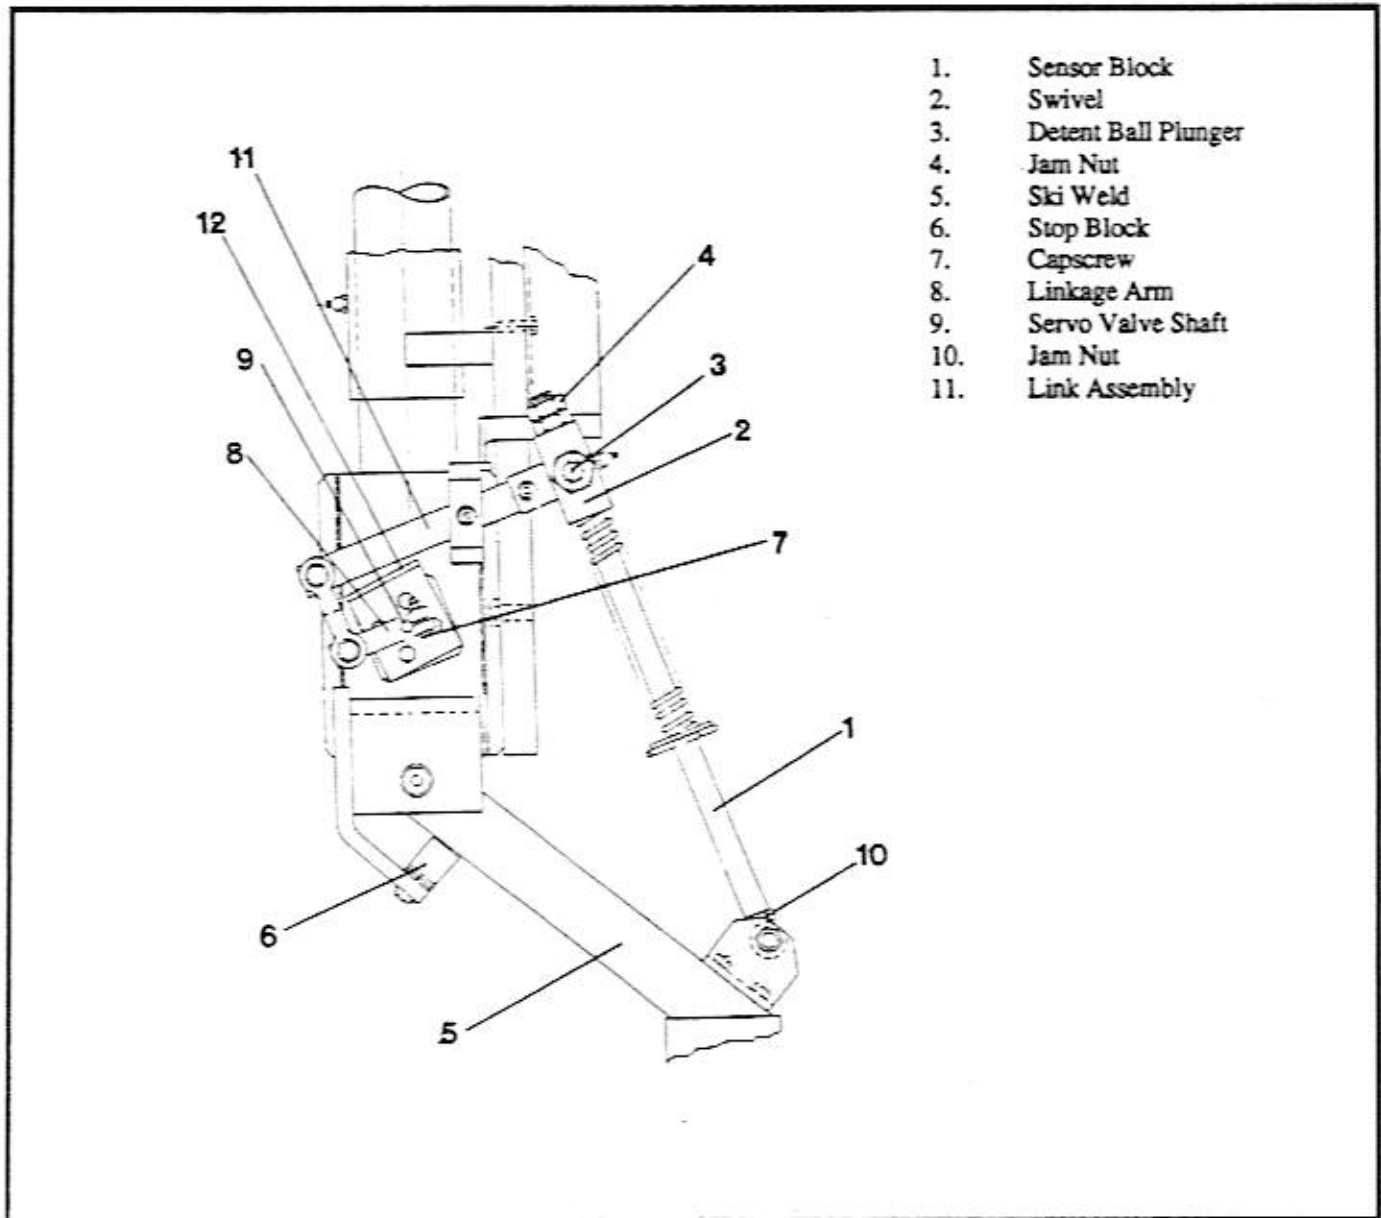

Figure 5-4. Hydraulic Grade Sensor Null Adjustment
*This procedure is made up of two parts. The linkage must first be zeroed and the grade sensor "null" adjustment must be made. The sensors must then be zeroed with the cutter drum. Refer to Figure 5-4.*